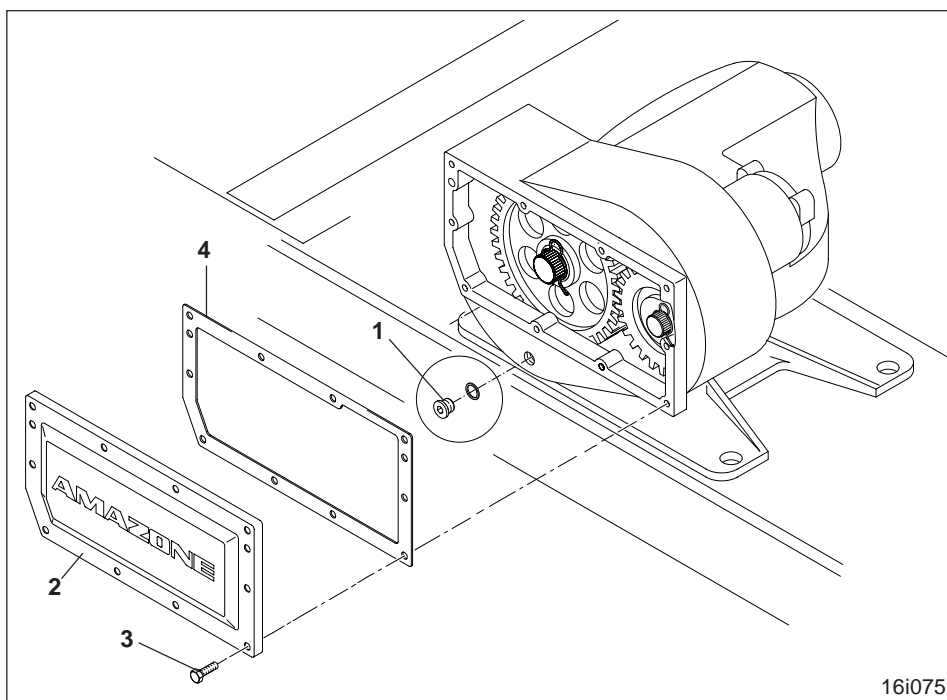

Fig. 9.7
For replacing the exchange gear wheels in the exchange gear main gearbox (Fig. 9.7
The oil level may also be reduced by draining the oil using the oil drain plug (Fig. 9.7/1). The collected gear oil can be poured back into the gearbox through the opening
1. **Remove the gearbox lid (Fig. 9.7/2) only when the tractor's pto shaft is disengaged, the engine has been switched off and the ignition key has been removed.**
- Remove the gearbox lid (Fig. 9.7/2) from the gearbox housing after the hex bolts (Fig. 9.7/3) have been removed.
- Close gearbox lid (Fig. 9.7/2) with the lid gasket (Fig. 9.7/4) and bolt onto the gearbox housing.